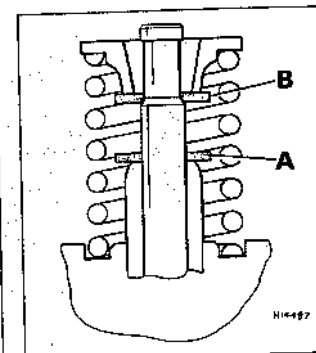

Fig. 13.2 Inlet valve oil seal - fitment to early models (Sec 4)
- 10 When fitting the seals onto the valves, press the seal down until it abuts with the valve guide. When the engine is started the seal will automatically position itself on the valve stem (Fig. 13.2).